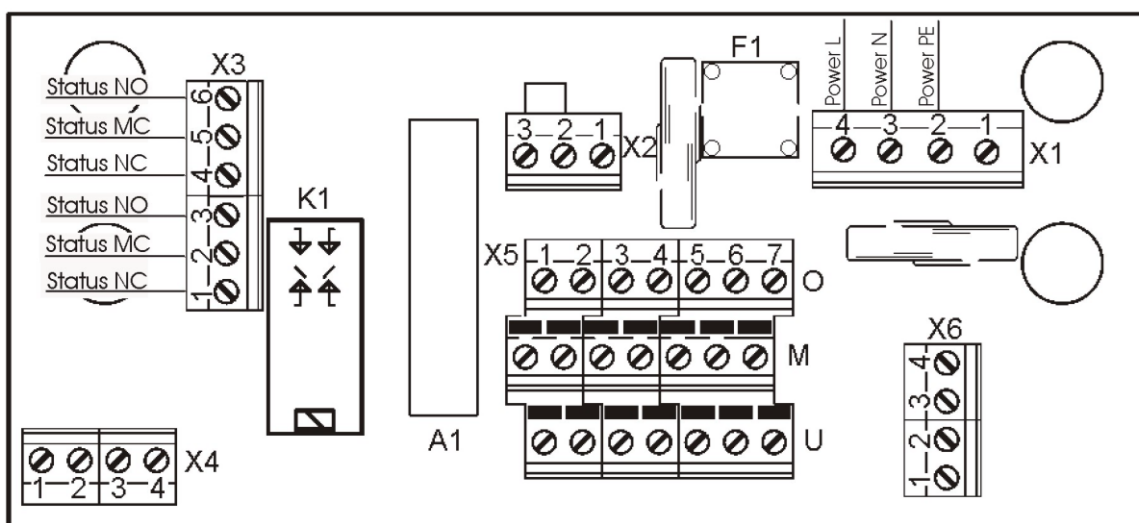

Figure 5 Electrical connections, alarm contacts
Figure 5 shows the electrical connections behind the front panel of the **ECM-ExII** housing.
- put the cables (6-12 mm) through one of the cable glands in the bottom plate, and connect them according to the electrical connections in Fig. 5;